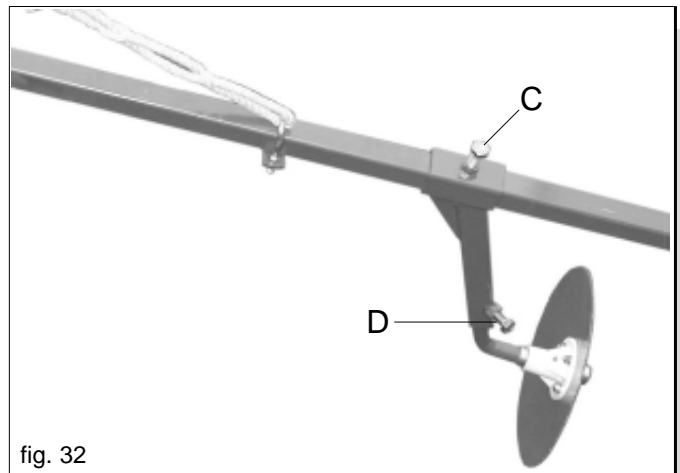

fig. 32
- Loosen the bolt (Fig. 32 C, D).
- Tighten the bolt (Fig. 32 C, D).